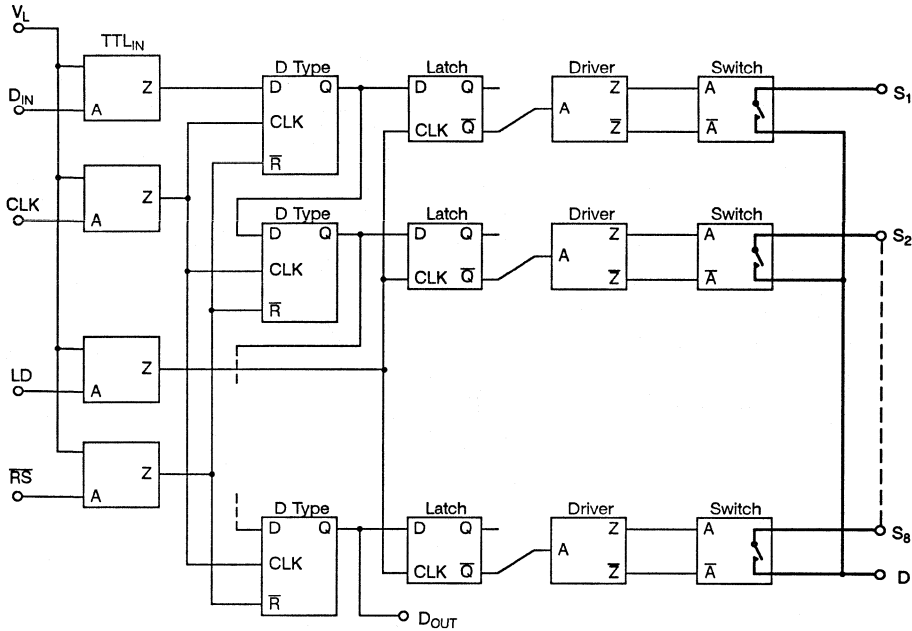

Figure 1. The DG485 Internal Block Diagram
The internal block diagram for the DG485 is shown in Figure 1. It consists of five elements: (1) the logic input stages, (2) an array of eight D-type flip-flops that form an input shift register, (3) an array of eight data latches, (4) eight switch drivers, and (5) eight CMOS analog switches. There are three power supply inputs and a ground. The three supplies are $V+$, $V-$, and V_L . $V+$ and $V-$ set the analog range for the signals being controlled by the switches. The range of operation for $V+$ and $V-$ is $\pm 5\text{ V}$ to $\pm 20\text{ V}$ and also includes single-supply operation by connecting $V-$ to ground. The V_L input determines the